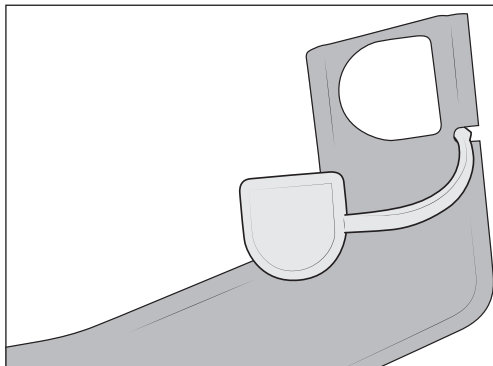

Figure 35
12. Slide winch plug cap into slot on side of winch plate next to D shaped cutout as shown (fig. 35).